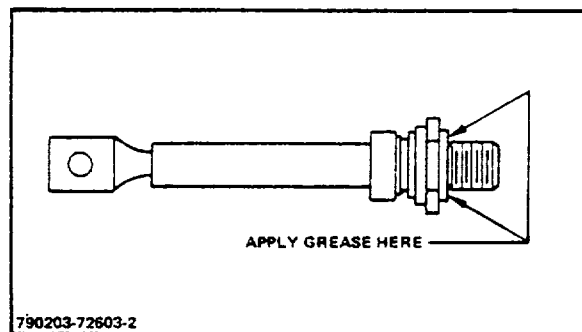

Figure 4-1. Heat Transfer Grease Application
When replacing static panel components, refer to chart on Page 2-42 for component and mounting hardware tightening torques. SCR leads that are not screw connected terminate inside the control wiring plug (TB-2). Swing the card up and remove the plug to gain access to these leads. Components are secured to the baseplate with self-tapping screws which must be installed in the same hole from which they were removed. Always twist leads where shown on the schematic to prevent noise interference. When installing stud type SCRs and diodes, the use of heat transfer grease such as G.E. Versilube G-350M or an equivalent compound is recommended. Apply the heat transfer grease under the hex head of the component and not on the threads (Fig 4-1). Coating the threads may cause component failure.
- (1) Apply a thin coat of silicon heat transfer grease (G.E. Versilube G-35011, or equivalent) to the hex portion of the component where it contacts the heatsink (Fig 4-1). Do not apply grease to the threads of the component.
- (2) Install the component into the heatsink and tighten to the specified torque.
- (3) Connect the pigtail to its proper terminal. Install the gate lead(s) to the proper terminal as tagged during removal (SCRs Only).